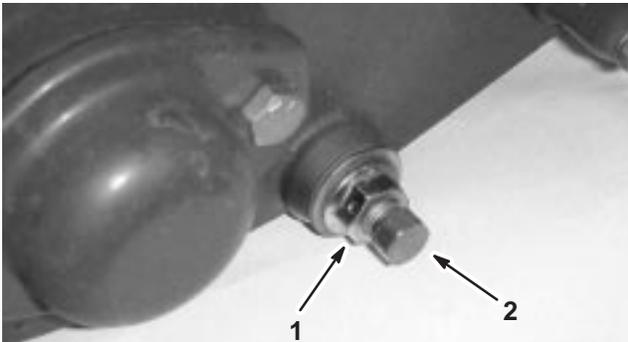

Figure 49
- On each side of the machine, loosen the jam nut securing the bedbar bolt (Fig. 49).
- Remove each bedbar bolt allowing bedbar to be pulled downward and removed from machine. Account for 2 nylon and 2 stamped steel washers on each end of bedbar (Fig. 49).